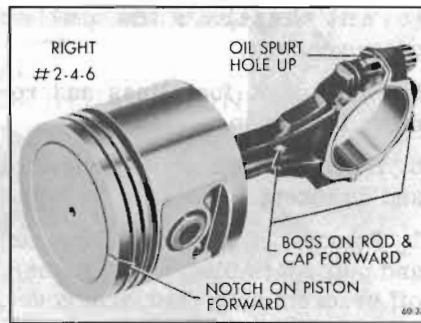

Figure 60-134—Right Piston and Rod Assembly
3. If the piston and rod assembly is to be installed in the right bank, the assembly must be made as shown in Figure 60-134.